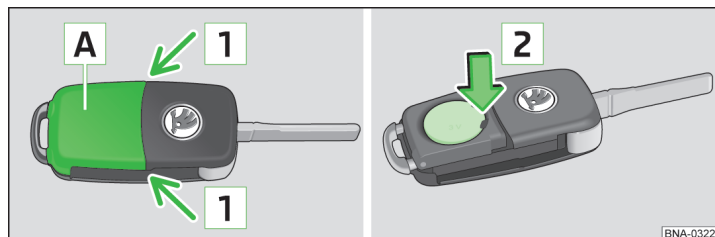

Fig. 97 Remove cover/take out battery
- Press off the battery cover **A** » fig. 97 with your thumb or by using a screwdriver in the area of arrow **1**.